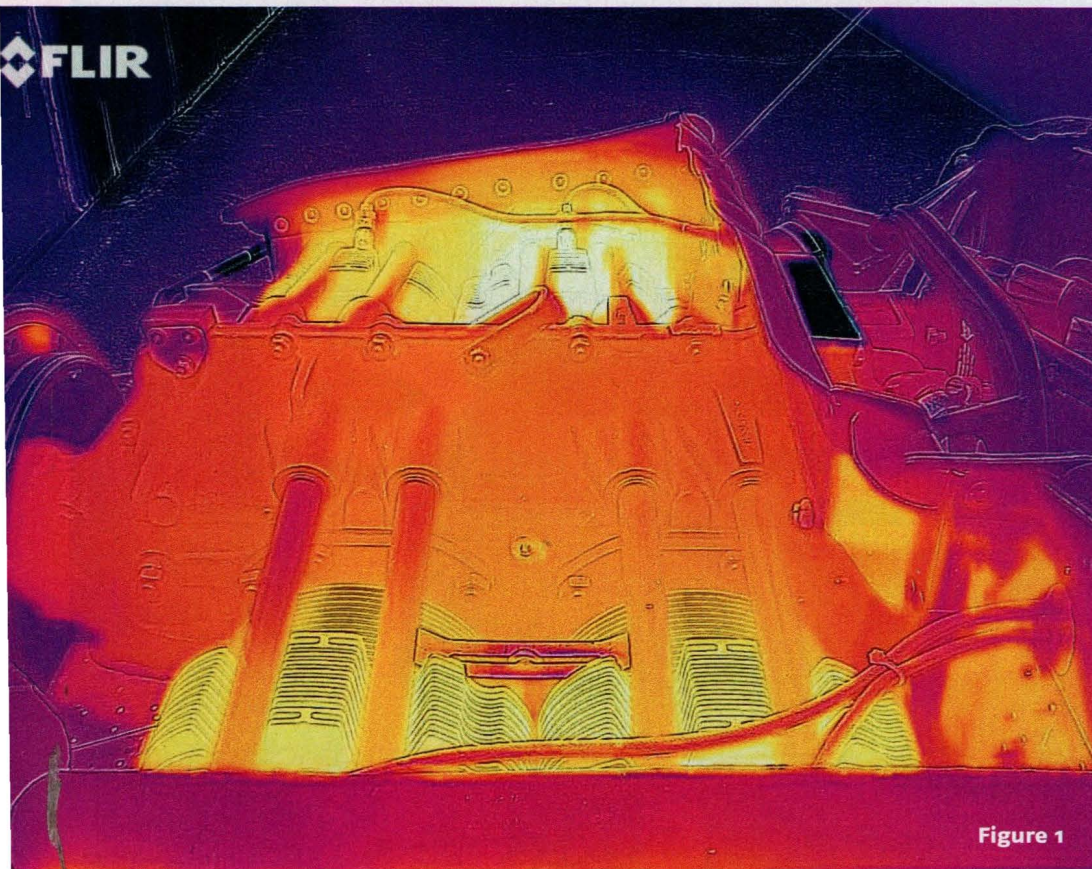

Figure 1
Infrared radiation (IR) is electromagnetic radiation (EMR) with longer wavelengths than are typically invisible to the human eye. Infrared radiation is more commonly known as “heat radiation.” Thermography is an infrared imaging technique, using specialized sensors to detect radiation in the long-infrared electromagnetic spectrum for taking photographs or video. Modern digital cameras use a CMOS (complementary metal-oxide-semiconductor) sensor, which has most of its spectral sensitivity focused in the visible light wavelength range. Similarly, a thermographic camera uses an FPA (focal plane array) sensor that responds to the longer wavelengths associated with infrared radiation. The newest technologies use low-cost microbolometers as FPA sensors. A microbolometer works with infrared radiation in wavelengths between 7.5-14 micrometers. The infrared radiation strikes the detector material, heating it and thus changing its electrical resistance. This resistance change is measured and processed into temperatures that can be used to create an image. (Figure 1)